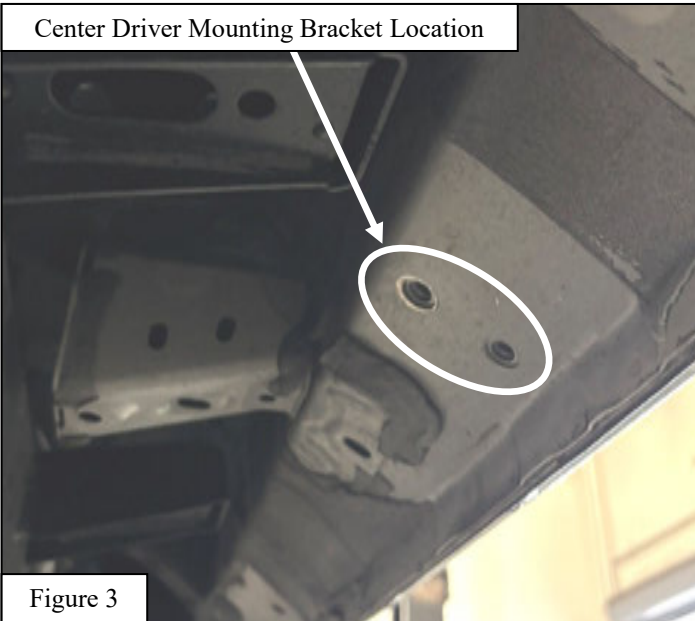

Figure 3
4. Remove the factory hardware from the center and rear mounting holes. See **Figures 3 and 4**.
5. Loosely install (1) Driver Mounting Bracket “B” (**item 5**) in the center mounting location using the M8 hardware (**items 7-9**). See **Figures 3 and 5**.